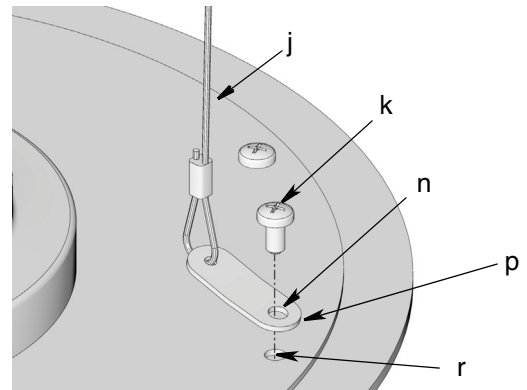

FIG. 7
11. Remove one of the screws (k) from the follower plate (m) (FIG. 7).
12. Install screw (k) through the hole (n) in the metal plate (p) located at the end of the low level cable (j) and then through the screw hole (r) in the follower plate (m) (FIG. 7). Tighten screw securely.